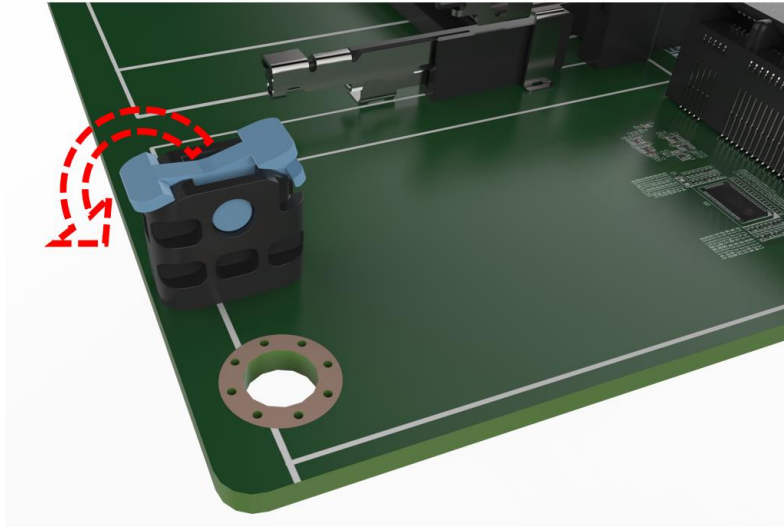

Figure 3-9: Press the End of The M.2 Retaining Clip
Step 3: Press the end of the M.2 retaining clip. As shown in **Figure 3-9**.